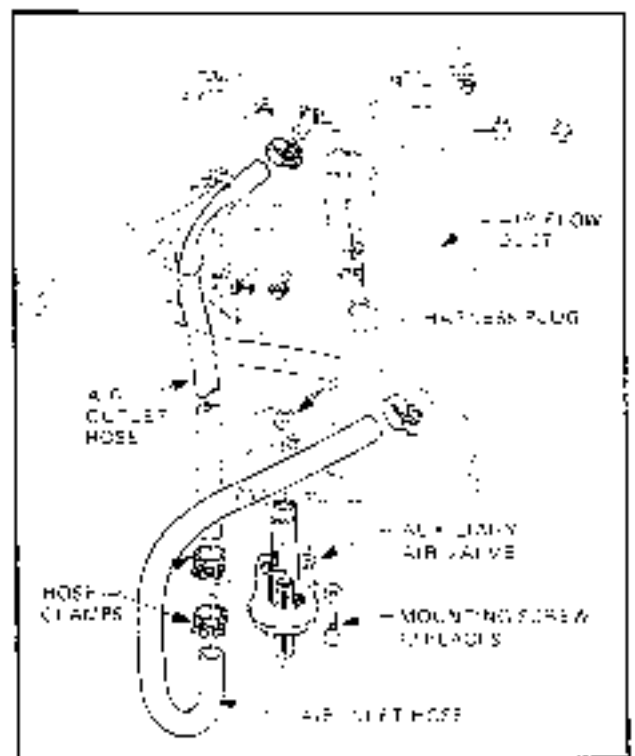

Figure 6C-87
3. Disconnect wiring harness connections on the pump. Note which way the wiring connectors are fitted to the pump. Refer Fig. 6C-88.